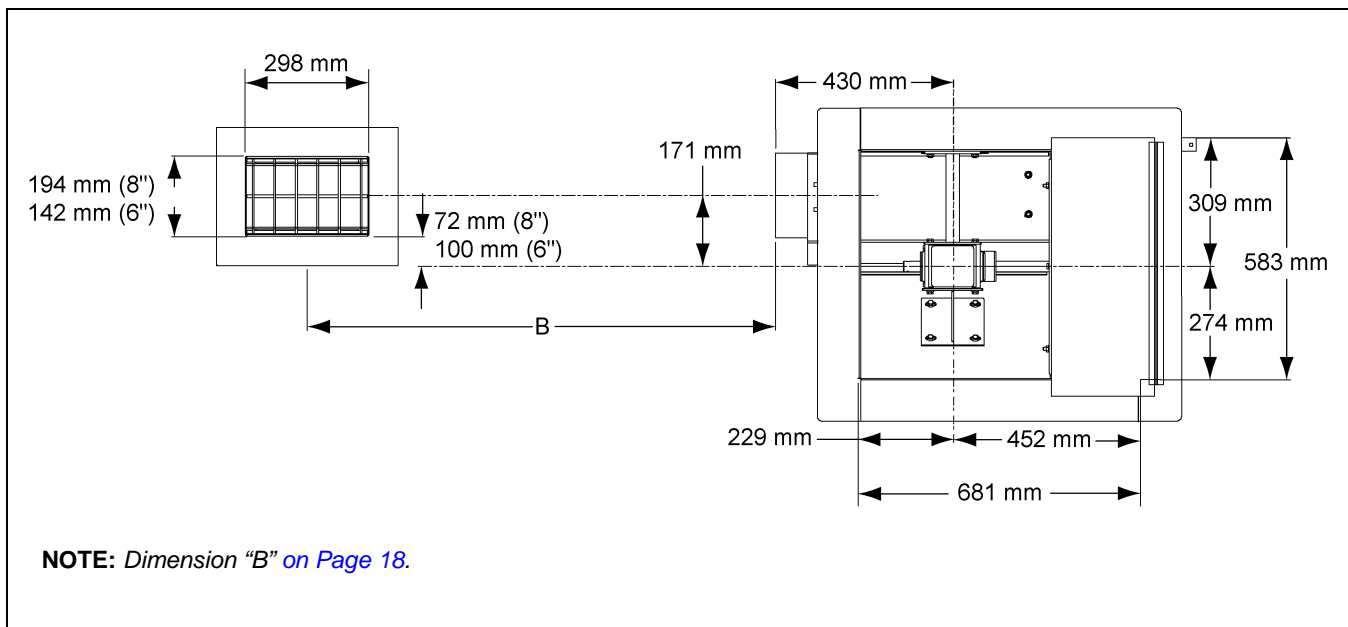
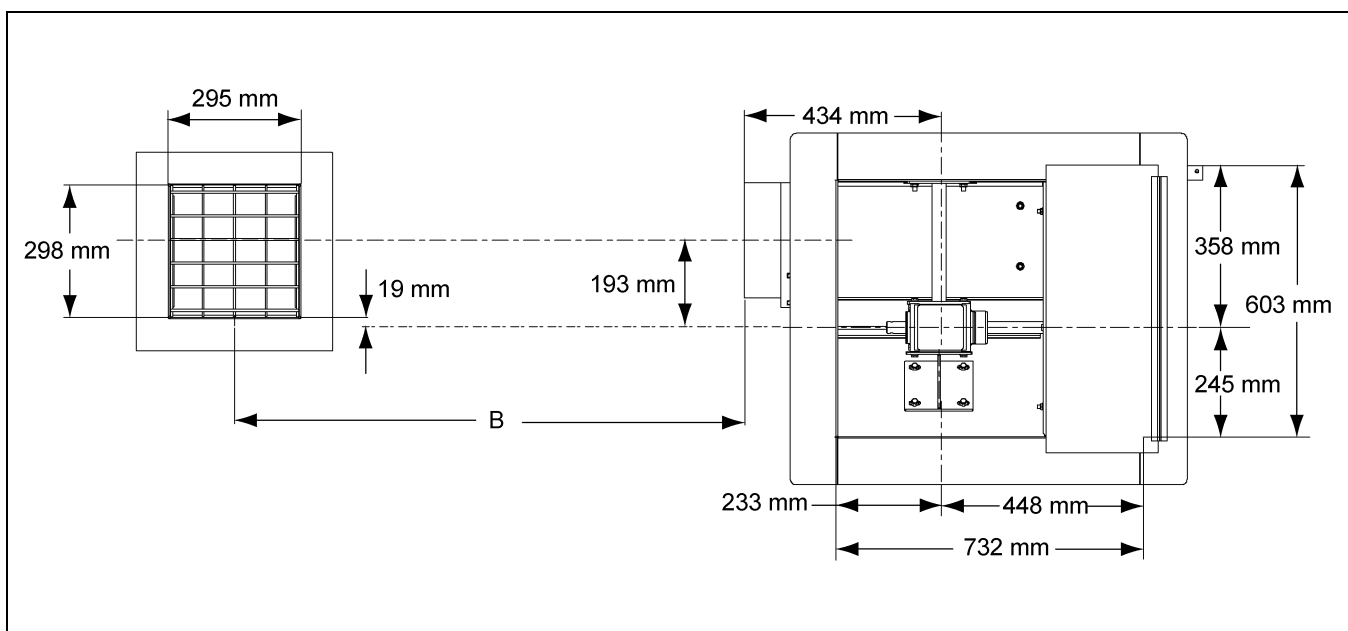

Figure 4B 6" and 8" Floor Well Cut-Outs
Figure 4C 10" Floor Well Cut-Outs
1. Locate the center of the bin and make a cut-out for the center well. (See Figure 4B or Figure 4C.)
1. Cut openings in the bin floor for the intermediate wells. *(See Figure 4B and Figure 4C on Page 17.)*